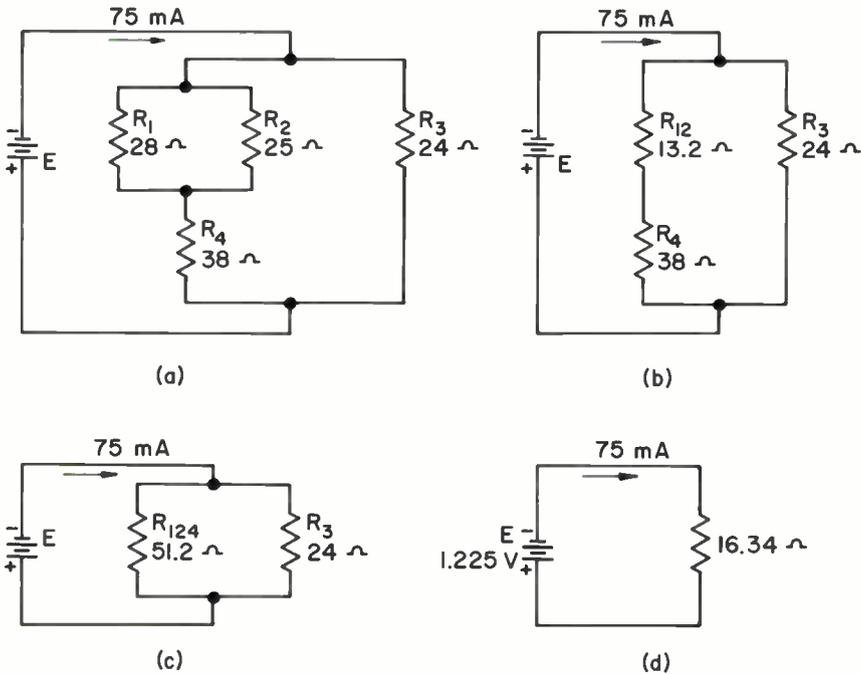

Fig. 15
1. 12.6 mA . . . Figure 15 shows the progressive steps to follow in working out the problem. Part (a) shows the circuit. In parts (b), (c), and (d), the components have been combined to form simpler and simpler equivalent circuits, until in (d) the entire resistance network has been reduced to the single equivalent 16.34- Ω resistance. Now, Ohm's law can be used to find the battery E voltage (1.225 V). Part (e) is part (c) redrawn, but—since E is now known—the currents through R_{124} and R_3 can now be found. (They are as shown.) At this point, make your first check by adding the two branch currents: 23.9 mA + 51.0 mA = 74.9 mA. Although this sum doesn't *exactly* equal the total current of 75 mA, it's close enough. Again, the discrepancy results from rounding off in the calculations.
Fig. 15 cont'd.
Fig. 15(f) is part (b) redrawn, with the information in parts (d) and (e) added. The voltage drops across the resistances are calculated by $E = I \times R$, and the results are marked on the figure. We can now make our next check by seeing if the sum of the voltages across R_{12} and R_4 equals the applied voltage E : $0.315 \text{ V} + 0.908 \text{ V} = 1.223 \text{ V}$. The slight difference between this sum and 1.225 (the value of E) is, again, due to rounding off.
Part (g) of Fig. 15 is the original drawing with all known values added. All that remains is to find the value of the currents through R_1 and through R_2 . The sum of these two currents should equal the current through R_4 —so, as your last check, see if it does.